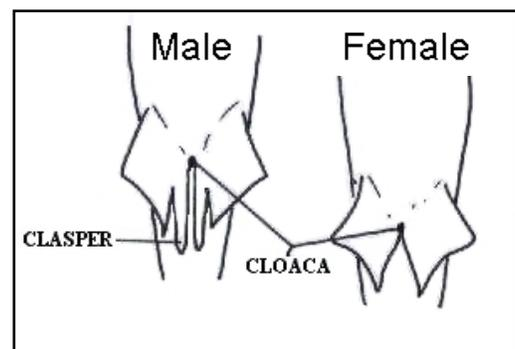
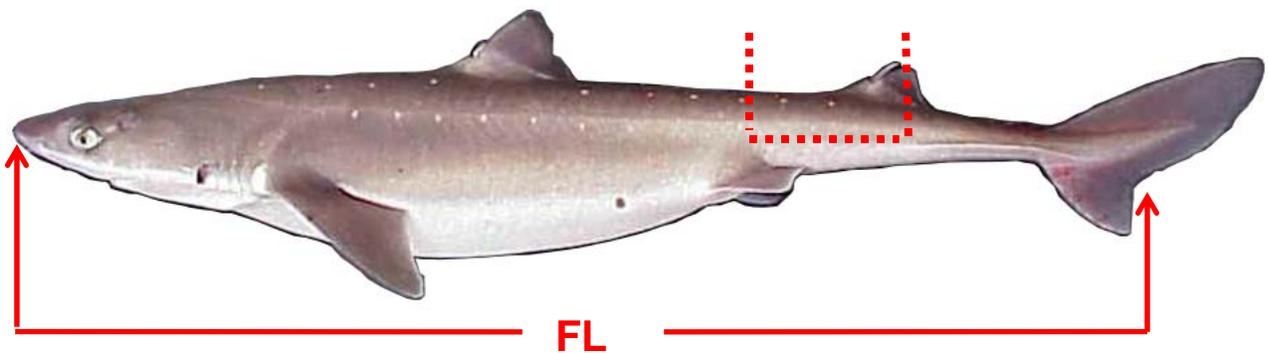

Figure 12 Ventral surface of sharks
Figure 13 Spiny dogfish fork length and age structure collection
To determine the sex of a shark, look for the presence of claspers around the cloaca. Male sharks have claspers, females do not (*see Figure 12*). For spiny dogfish, measure the fork length (FL) from tip of the snout to the fork in the tail (*see Figure 13*).
For spiny dogfish spine and vertebrae collection, the two structures can be removed together. Starting with a vertical cut behind the second dorsal spine, cut down through the vertebrae. Then cut horizontally towards the head for about 10 cm keeping the blade ventral to the vertebrae. Make another vertical cut about 10 cm forward of the spine to remove the spine and vertebrae as one piece. The vertebrae must be intact so take care not to nick it while trimming excess tissue (*see Figure 13*). Place the spine and vertebrae in a barcode-labeled bag, and freeze. Record the barcode number, sex, fork length and weight on your deck sheet and enter the data into ATLAS as specimen code 5 (vertebrae). Store the dogfish specimens all together in a clearly labeled bag in the freezer, to ensure that they all return to debriefing with you.